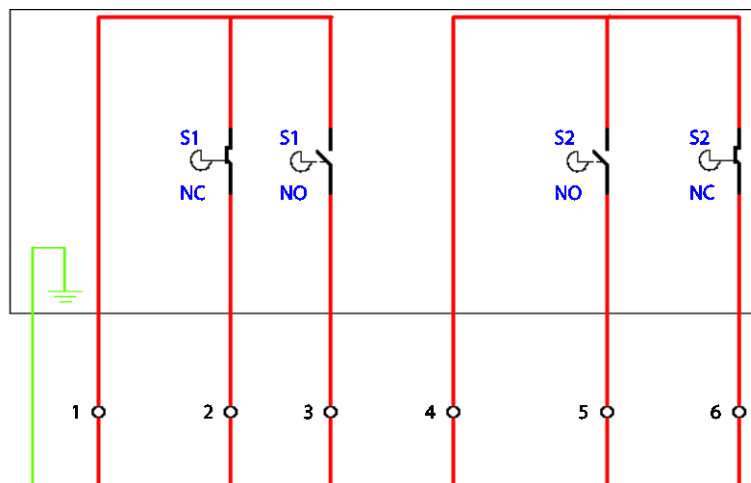

Figure 3.9.3.i End Switch Wiring Schematic
5. Wire the ESPU according to the Valve Proving the End Limit Switch will be required to provide. See the End Limit Switch wiring diagram in Figure 3.9.3.i
End Limit Switches are mounted on the end of bespoke valves (please contact Autoflame regarding bespoke valve manufacture) which are attached to the air and fuel valve and commissioned depending on the use of the End Limit Switches. An End Limit Switch comprises of two switches, as shown in Figure 3.9.3.i. Each comprises of an Earth and 6 connections to be wired as appropriate. The switches S1 and S2 are setup as per on site specification. These are then wired into either or both of the terminals 80, the start position interlock, and terminal 81 purge interlock.